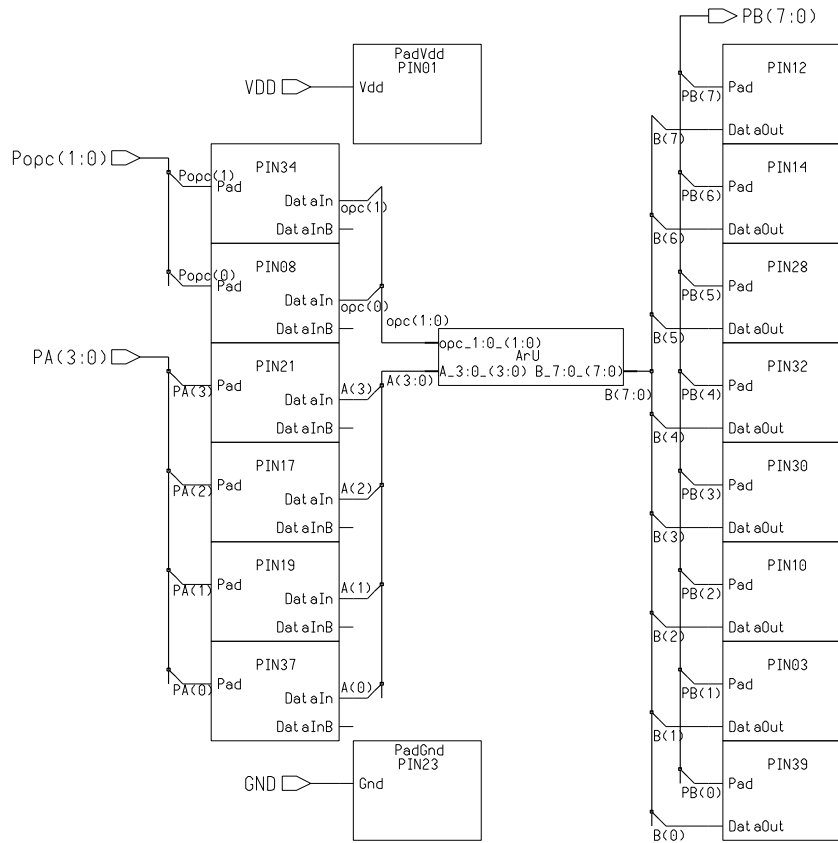

Figure 4: A schematic of the integrated circuit with I/O pads.
- You will need 6 input pads (In), 8 output pads (out) and 2 power pads (GND and VDD) as in Figure 4. The pads are specific for the given technology and must agree with the technology of the design. For the TSMC0.35 technology schematic symbols of I/O pads exist in `$ADK/lib/pads/tsmc035`. You can navigate to the pad library starting from the `schematic_edit` palette and
- In a similar way place the output and power pads. Next, wire the core logic and pads together for the complete circuit to look as the one in Figure 4